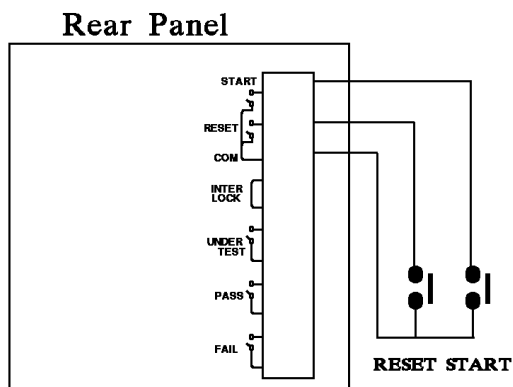
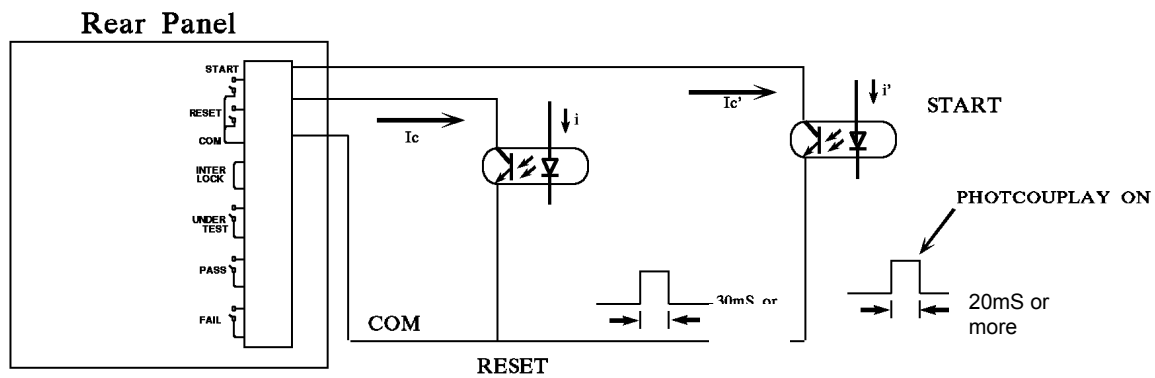

Figure 2-1
Figure 2-3
- For single control of START and RESET signals follow Figure 2-1 listed below to connect them to the REMOTE position on the system back panel.
- Either the relay switch control in Figure 2-1 or the coupler control in Figure 2-3 uses the contact of components for control action. It can prevent the error operation from interference effectively. Though the system has a lot of precautions, you would still need to watch out the interference caused by the measurement system settings.